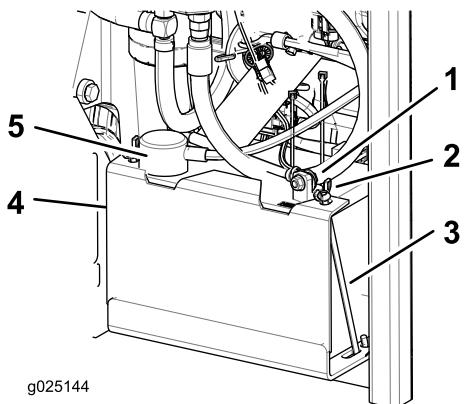

Figure 40
3. First disconnect the negative battery cable (black) from the negative (-)(black) battery terminal (Figure 40).
4. Slide the red terminal boot off the positive (red) battery terminal and remove the positive (+)(red) battery cable (Figure 40).
5. Remove the wing nuts securing the J-hooks (Figure 40).
6. Remove the clamp (Figure 40).
1. Position battery in the tray with the terminal posts opposite from the hydraulic tank (Figure 40).
4. Secure the cables with 2 bolts, 2 washers, and 2 locknuts (Figure 40).
6. Install the clamp and secure it with the wing nuts and J-hooks (Figure 40).